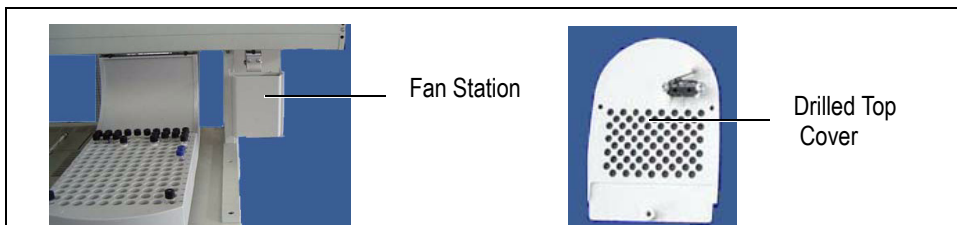

Figure 3-36. Example of Fan Station Installation
1. Install the Fan Station away from the heated surface as shown in the example of Figure 3-36.